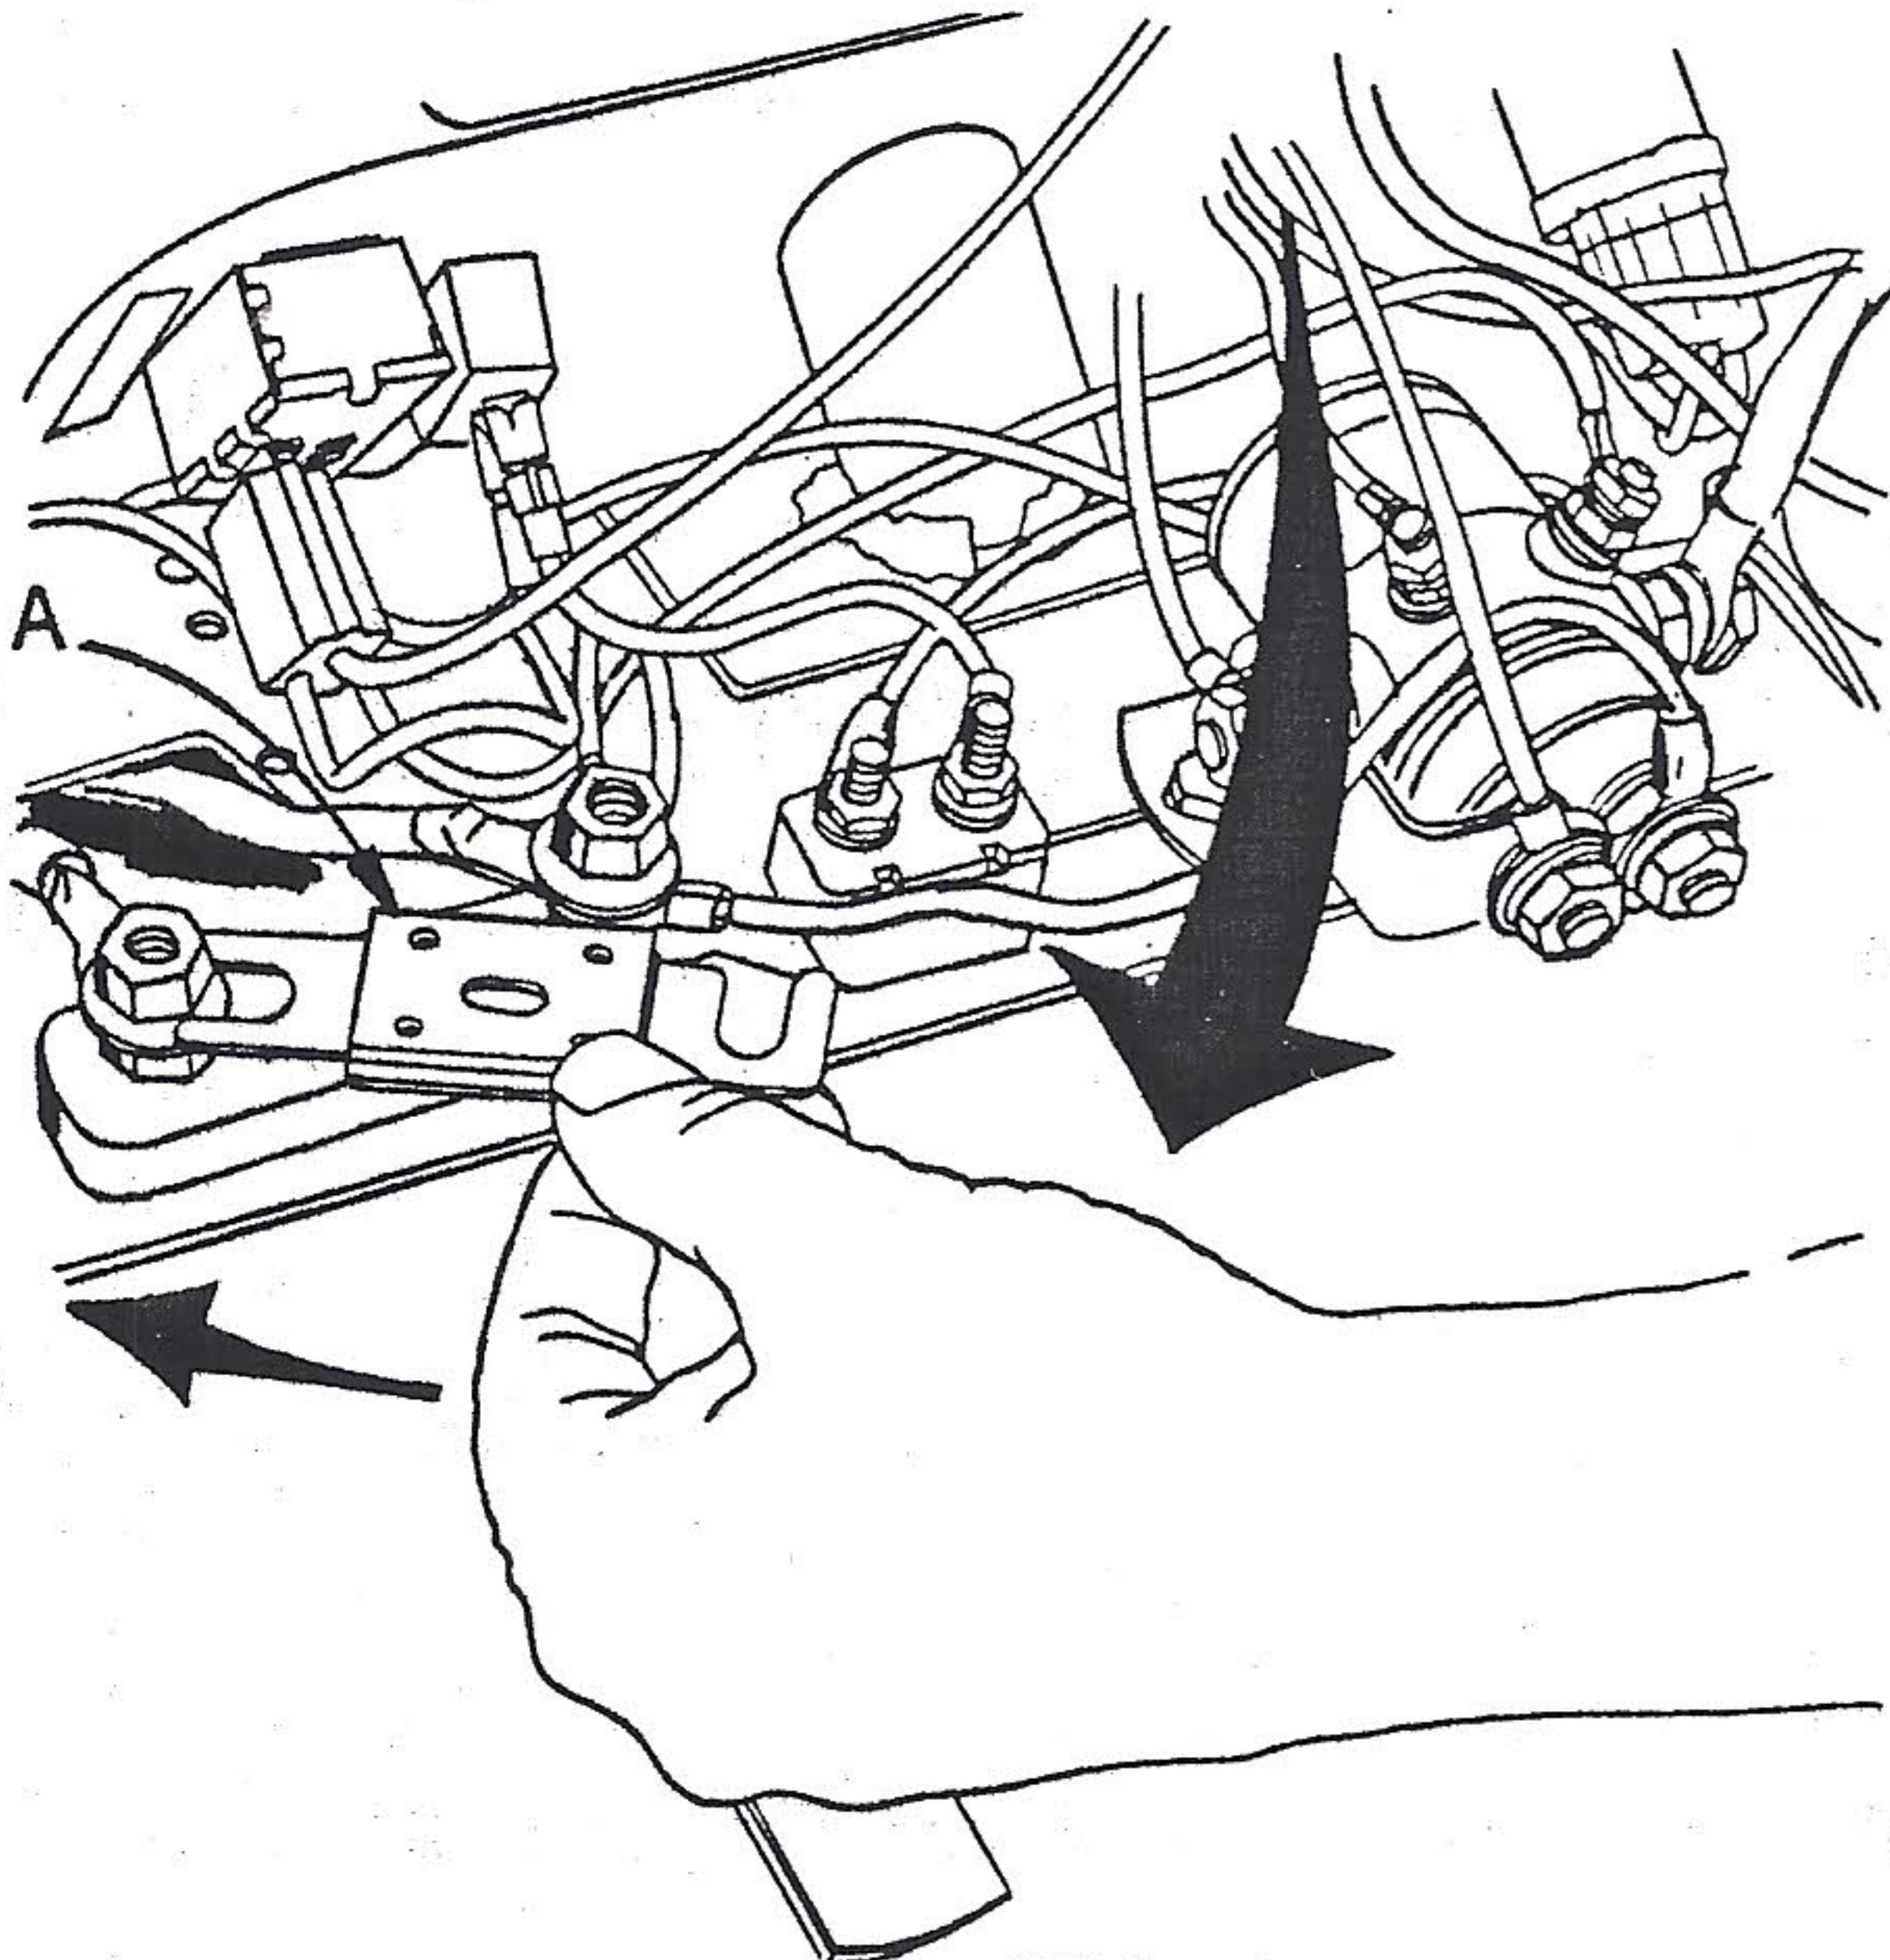

FIG. 40
1. Refer to Fig. 40. Disconnect the 100-amp fuse (A), and one battery terminal.
2. Disconnect the 100-amp fuse. Refer to Fig. 40.